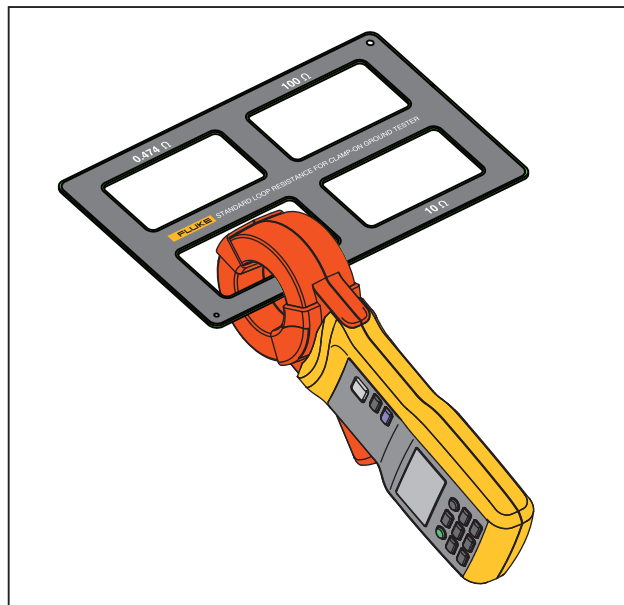

Figure 7. Standard Loop Resistance
1. Position the Jaw on the Standard Loop Resistance. See Figure 7.